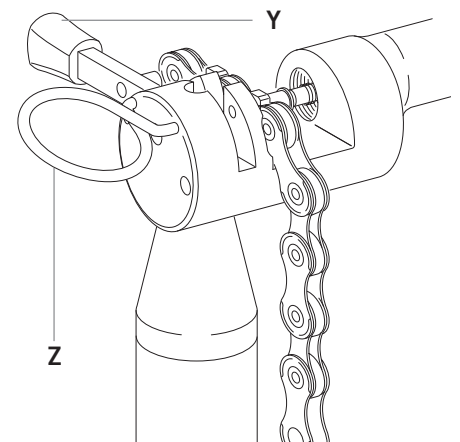

Fig.12
- Clamp the link with the special clamping device (Z - Fig. 12).
- Check that the tongue of tool **UT-CN400 (12s) / UT-CN300 (11s / 12s)** is in the external position (Y - Fig. 12).